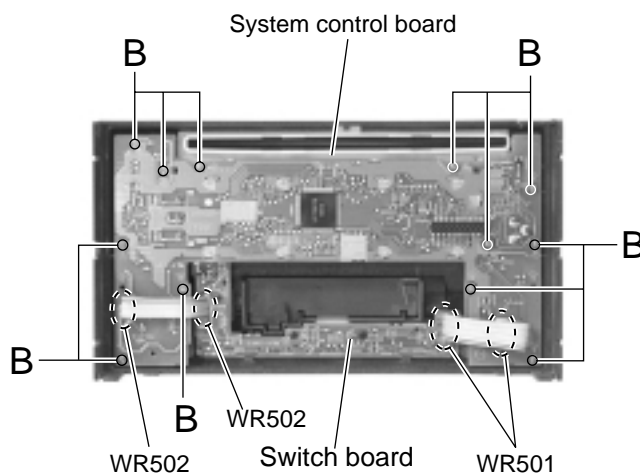

Fig.4
■ Removing the system control board / switch board (See Fig.4 , 5)